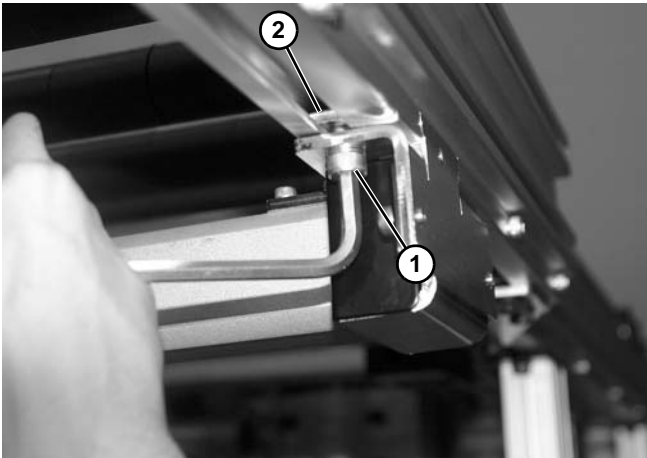

Figure 70
2. Remove screws (Figure 70, item 1) connecting the motor to the spring nuts (Figure 70, item 2) in the conveyor frame.